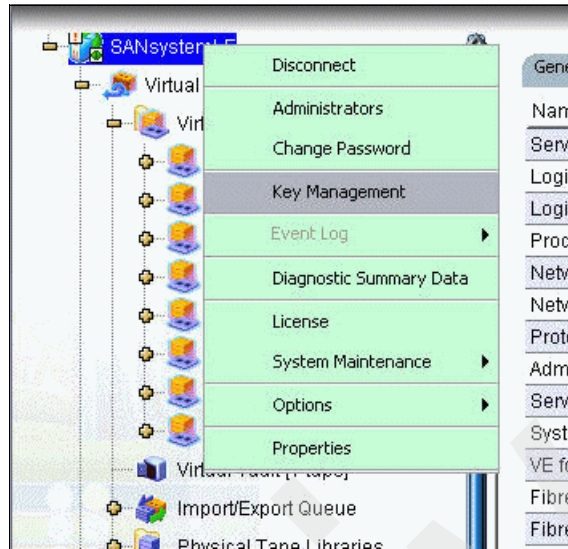

Figure 7-21 Starting the key management process
1. Right-click the server name and click Key Management as shown in Figure 7-21.